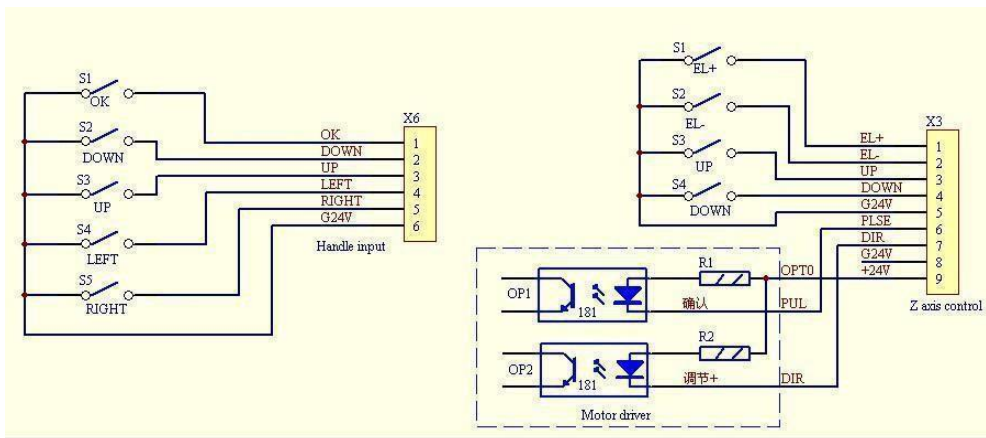

Fig 9 Manual rocker Circuit
- (1) Manual rocker is led from X6 on the main control panel, including 4 button: UP、DOWN、LEFT and RIGHT (Fig 9).
- (2) Driver motor is led from X3 on the main control panel, individually connecting the EL+、EL-、DIR and PLSE ports to Z axis limit switch and motor drive (Fig 9).